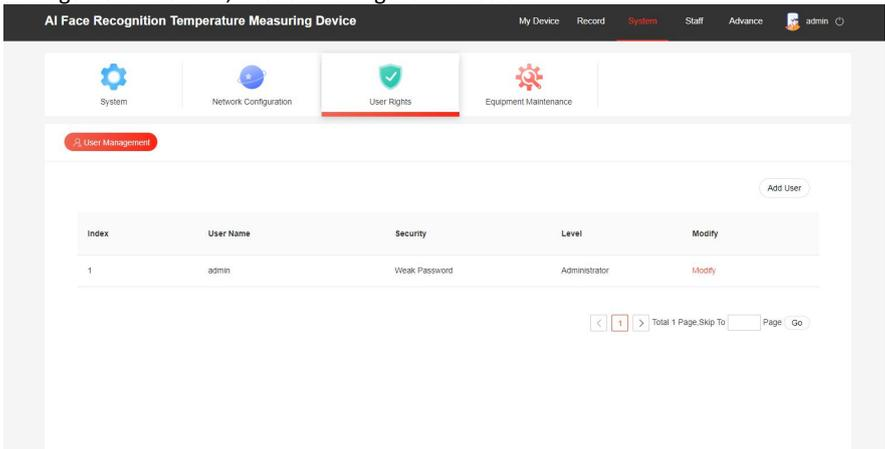

Figure 7-17
Step 1: After logging in to the web page, click "System → User Rights" to user management interface, as shown in Figure 7-17 below.